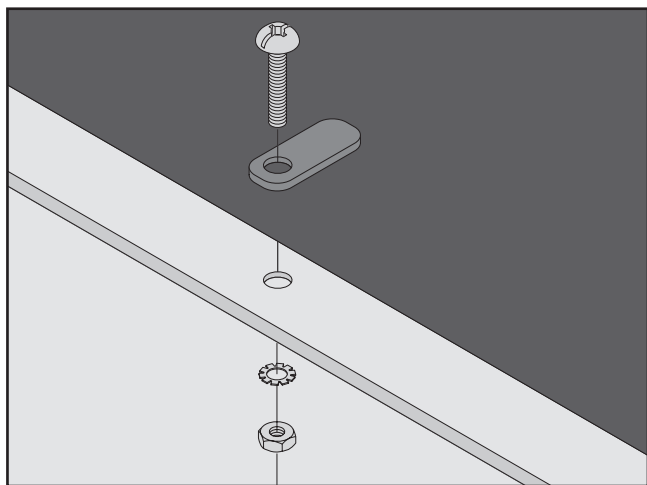

Figure 15. Dust hood installation.
2. Using a Phillips head screwdriver and an 8mm wrench, secure the dust hood to the saw with the Phillips head screws, the hex nuts, the exterior tooth washers, and the toggle tabs (**Figure 15**).